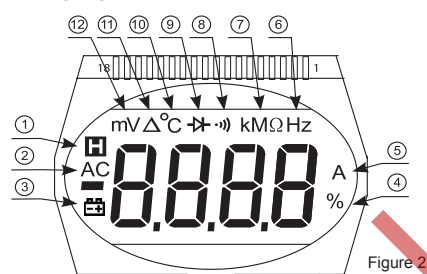

Figure 2
**Display Symbols (See Figure 2)**